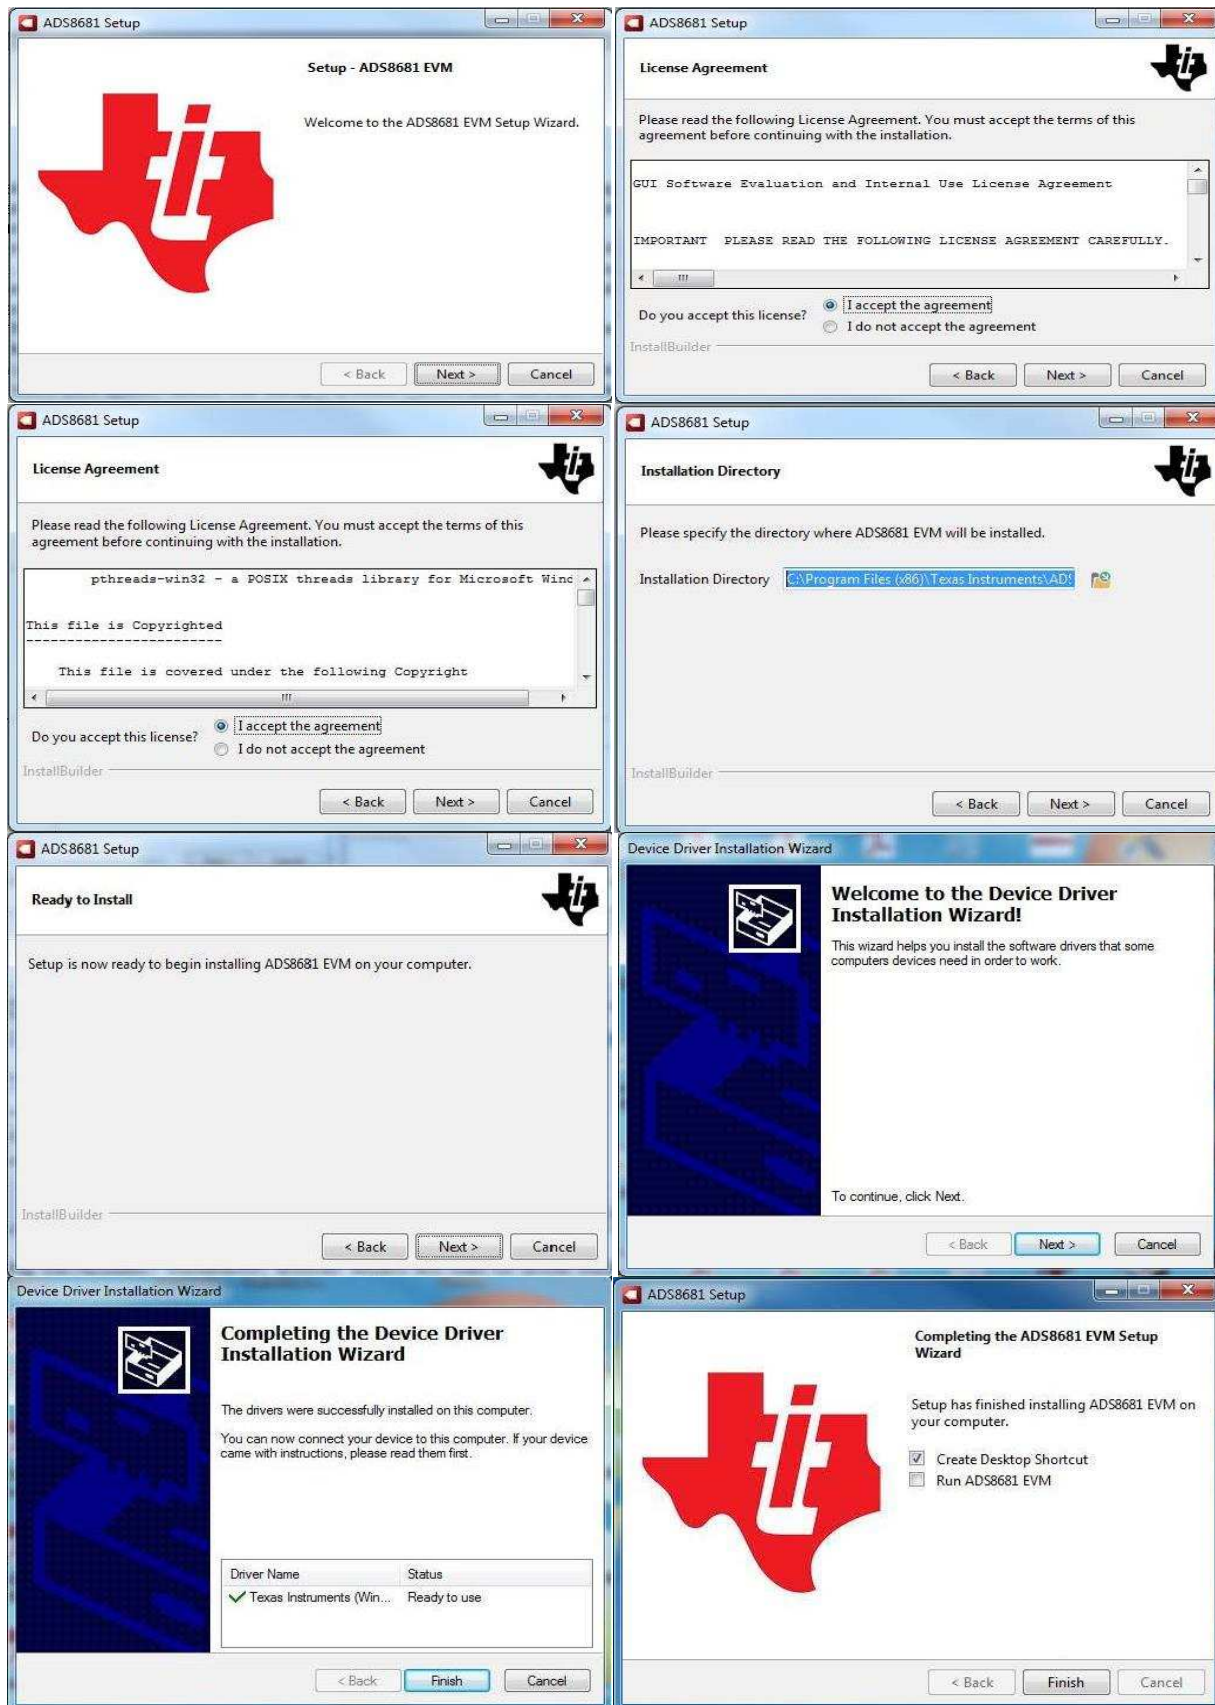

**Figure 6. EVM GUI Installer may Trigger Antivirus Software**
**NOTE:** Manually disable any antivirus software running on the computer before connecting the SD card or downloading the EVM GUI installer onto the local hard disk. Otherwise, depending on antivirus settings, an error message such as the one shown in Figure 6 may appear, or the installer .exe file may be deleted.